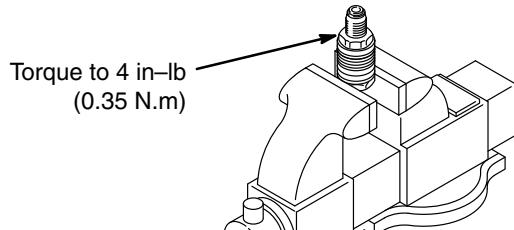

Fig. 24 02567
- Place the flats of the piston valve in a vise. Tighten the packing retaining nut against the piston valve to 4 in-lb (0.35 N.m). See Fig. 24.